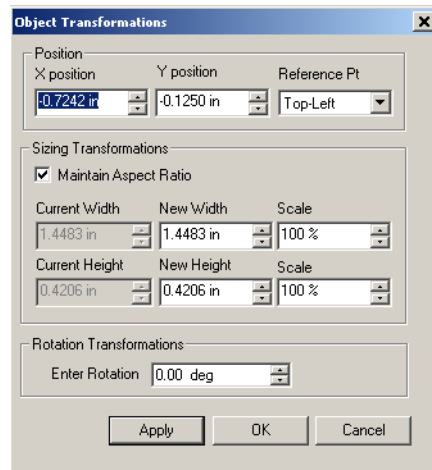

Figure 5-3 Object Transformations dialog box
- 3 In the *Object Transformations* dialog box (Figure 5-3), change X- and Y-position values (with four-digit accuracy!), scale the selection by entering a percentage or resize by entering precise width and height dimensions.